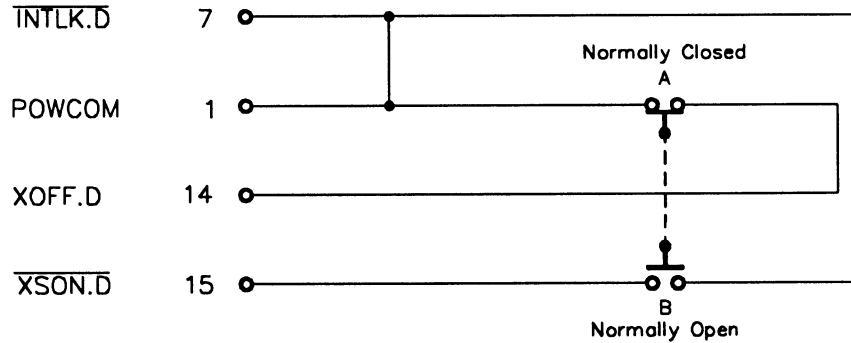

Figure 3-6. Wiring diagram for three-position, double-pole switch.
**Three-wire control: three-position, double-pole switch.** Figure 3-6 shows the wiring diagram for the three-position switch. Table 3-1 shows the output states that result from the three possible switch positions. As shown in Table 3-1, you turn the output on by making momentary contact at switch B, thus closing the circuit between *XSON.D* and *POWCOM*. You turn the output off by making momentary contact at switch A, thus opening the circuit between *XOFF.D* and *POWCOM*. The stable (middle) position maintains the normal contact positions and the unit remains on or off, depending on your most recent selection.